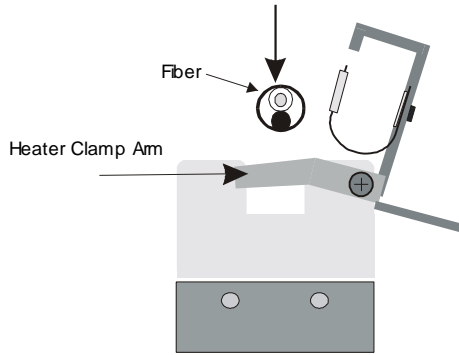

Figure 22. Closing the Heater Clamps
4. Make sure the fiber protection sleeve is centered over the spliced portion, maintain a slight tension on the fiber ends, lower the fiber onto the heater clamp arms, and push down. The tension of the fiber on the clamp arms should close the heater clamps. Refer to Figure 22.